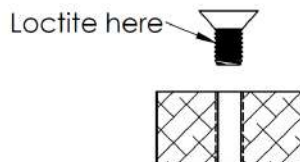

Fig.1 Through Hole
- For through holes, apply threadlocker directly on screws (fig 1).